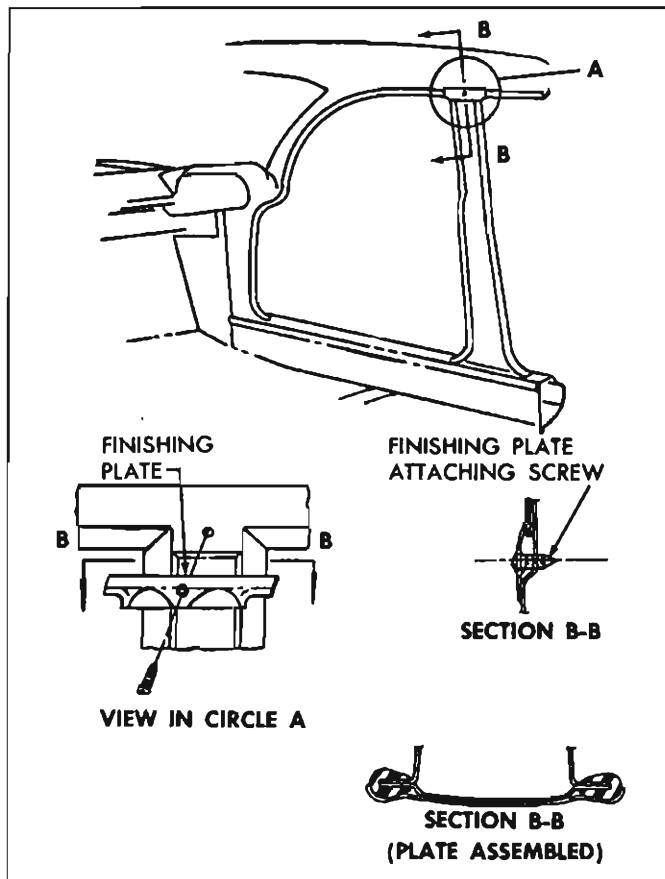

Fig. 5—"69" Style Center Pillar to Roof Rail Finishing Plate
- On "69" styles, remove center pillar-to-roof rail finishing plate (fig. 5).